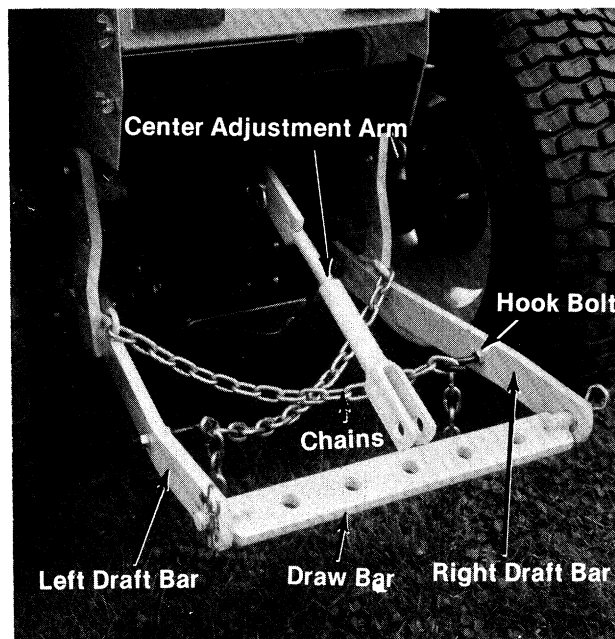

FIGURE 6.
Refer to figure 6 to determine which is the right and left draft bars.
4. Assemble the draw bar to the draft bars and secure each end with a cotter hairpin. (See figure 6.)
6. Place a lockwasher next to the hex nut and insert the hook bolt through the inside of the draft bar. Secure using a second nut. Do not tighten. (See figure 6.)
11. Assemble the flat end of the center adjustment arm to the upper hole in the center hitch bracket with a clevis pin, two flat washers and a cotter hairpin. (See figure 6.)